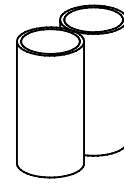
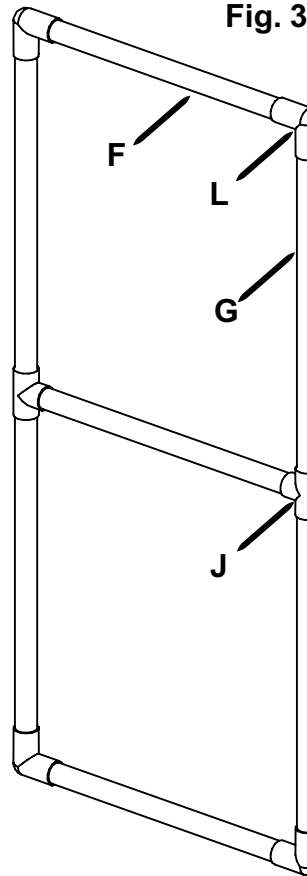

Fig. 1
Fig. 3
1. Glue 2 Pieces of 1-1/4" PVC x 4" (H) Together To Create Hinges as Shown. Make 4 Hinges.
2. Glue 1 Piece 1-1/4" x 4" (H) to 1 SnapClamp (I) To Create Latches as Shown. Make 2 Latches
3. Slide a Slip-T (J) onto each Door Frame Side (E) Locate 4" Down from Top.
4. Slide Hinges and Latch onto Door Frame Sides Positioned as Shown in Fig. 3
5. Connect the Two Door Frames with 27" Pipe (F) Assemble into Slip-T's on Arch and Base on Front of GreenHouse.
6. Slide Door Side Pipe (G) Through Hinges on Door Frame and Then Assemble Door as Shown in Fig. 1. with Middle Support Pipe (F) Located in the Center of the Door. Adjust Latch as Needed.